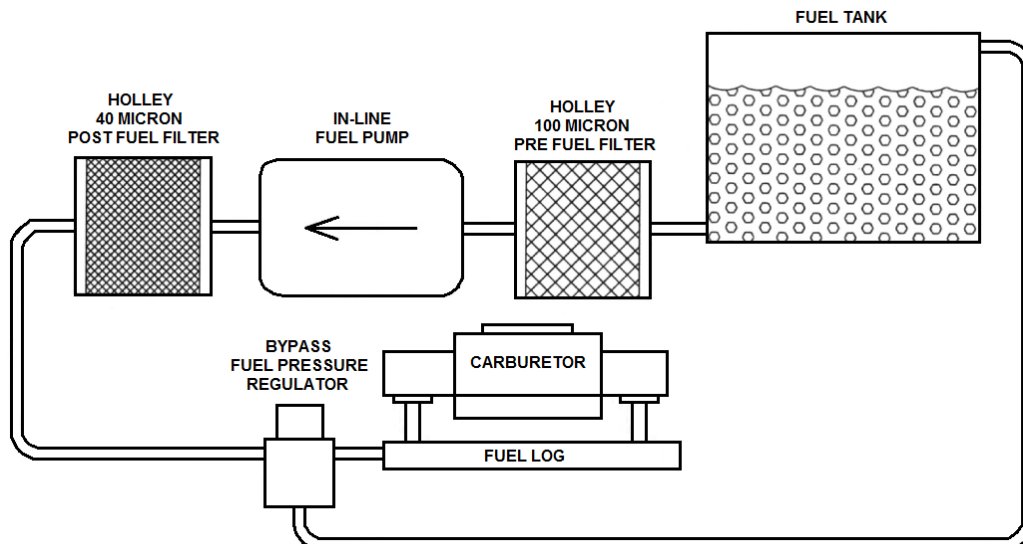

Figure 1a (Carb applications only)
5. Connect the fuel supply line from the tank to the pre-filter and then to the inlet port of the pump. Connect the main fuel feed line to the outlet port of the pump, then to the post filter. See Figures 1a and 1b.
NOTE: A return style fuel pressure regulator is required for use with the 12-170 fuel pump. Refer to figures 1a and 1b for recommended plumbing scenarios.